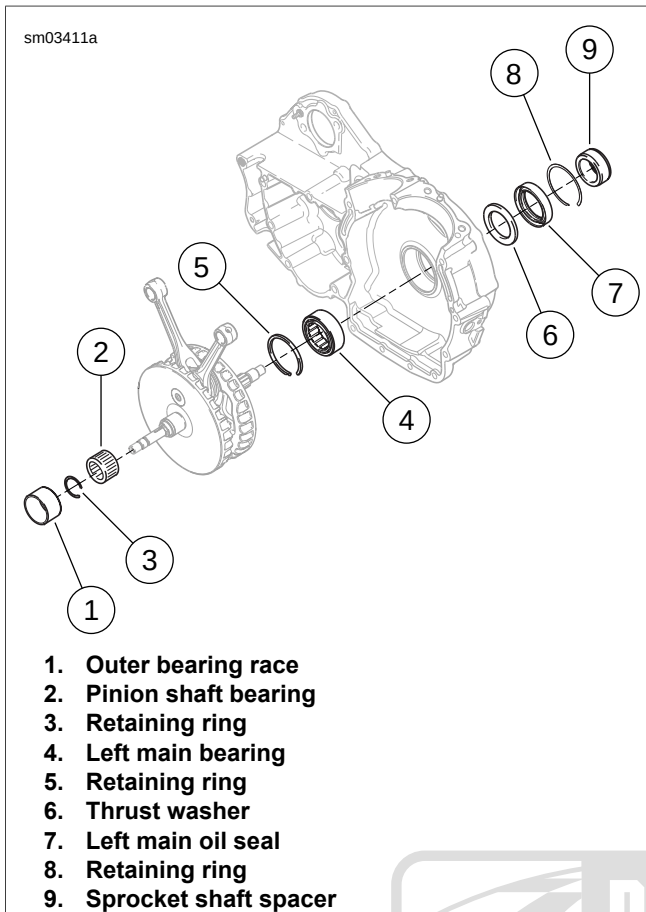

Figure 3-145. Pinion Shaft and Left Main Bearings
- See Figure 3-145. Lubricate pinion shaft and pinion shaft bearing (2) with SCREAMIN' EAGLE ASSEMBLY LUBE.